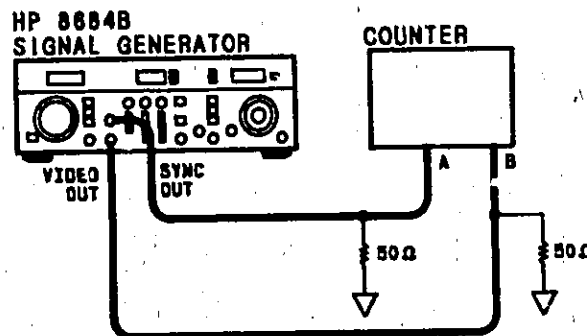

Figure 4-13. Internal Pulse Generator Test Setup
1. Connect equipment as shown in Figure 4-13.